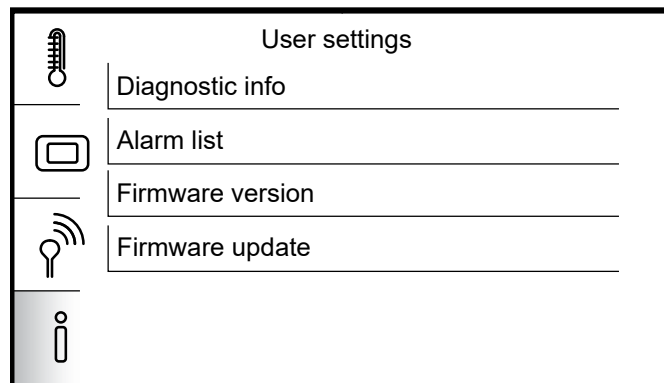

Figure 10-6: Controller information options.
3. Tap the information icon at the bottom. Refer to Figure 10-6.